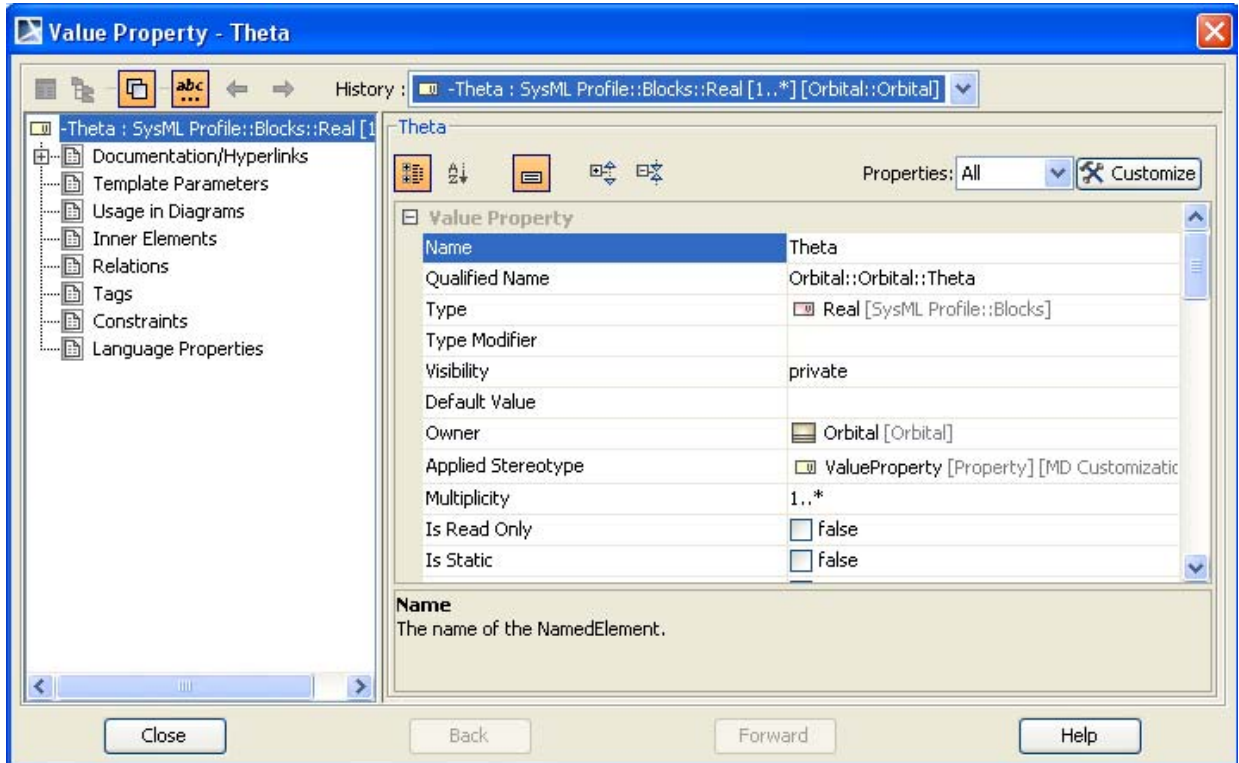

Figure 6.3 Setting the value property Theta multiplicity to 1..*
- ii. Double click on Theta (in Containment tree or on block definition diagram) and open the Value Property dialog box (see Fig. 6.3).